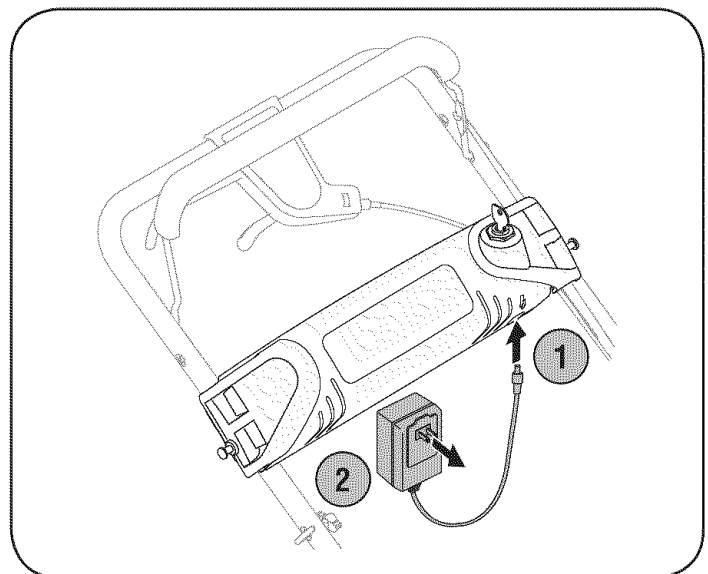

Figure 22
1. Plug the battery charger into the port on the underside of the battery housing. See Figure 22.